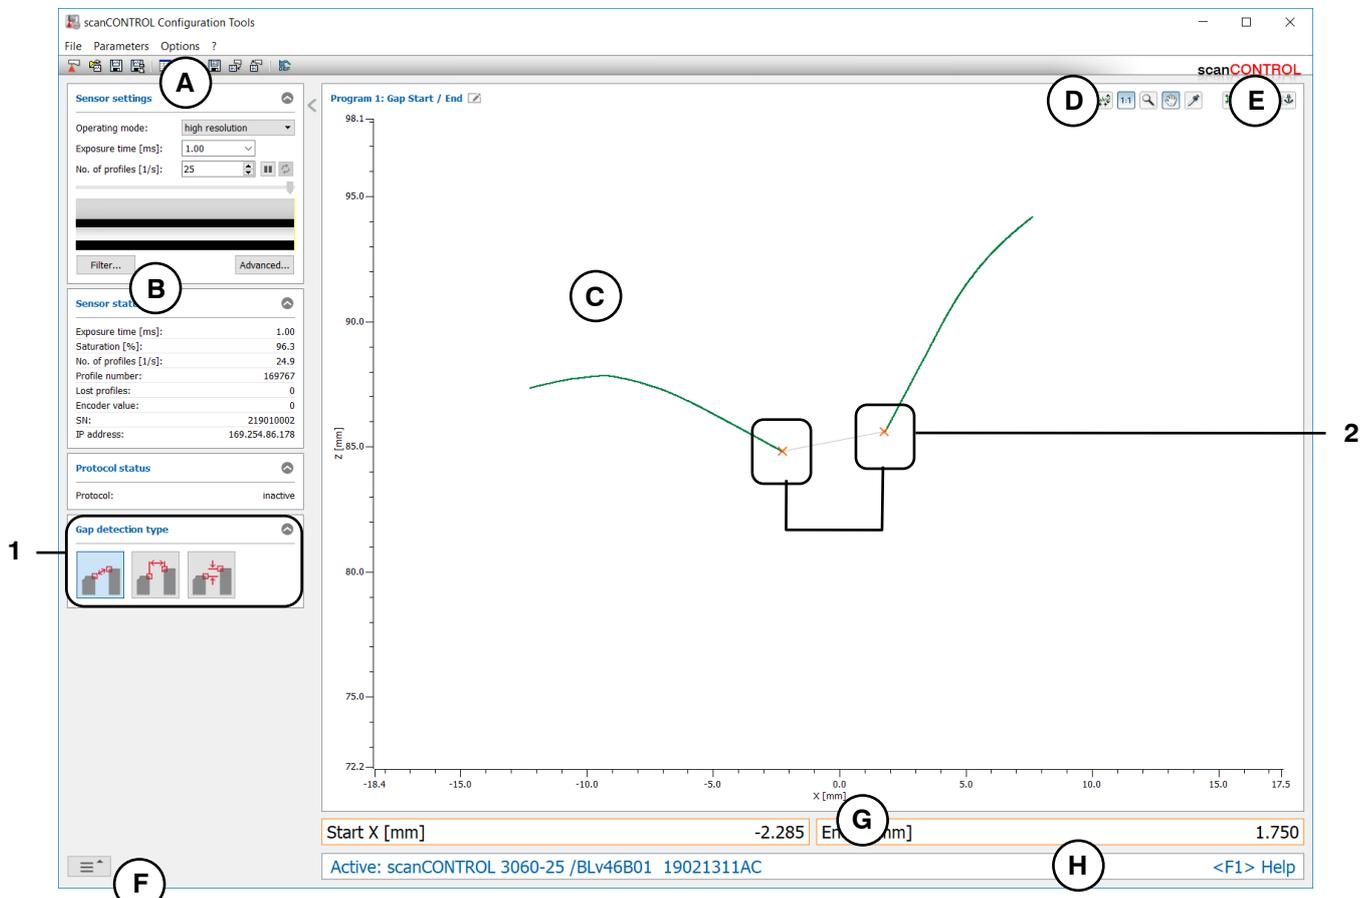

Fig. 4.37: "Gap Start/End" measuring program
- Define the type of gap detection (see Fig. 4.37):